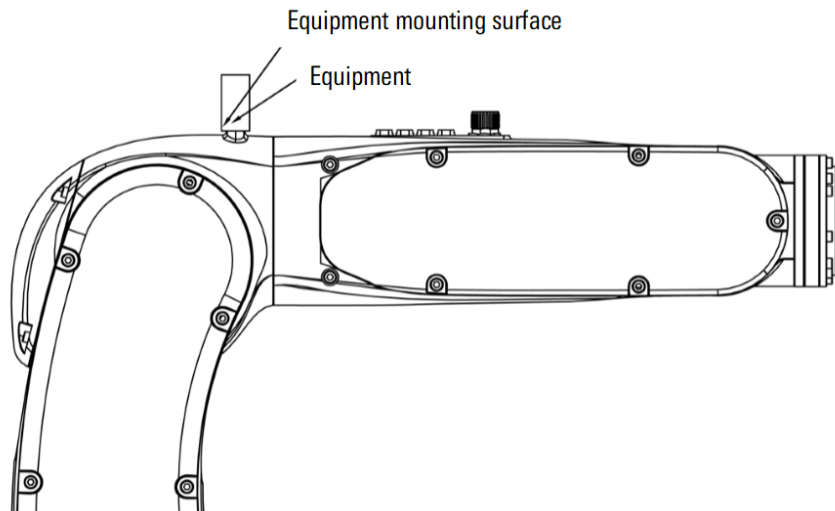

Figure 6-9 Diagram of installation dimensions for the elbow load of AIR4-560A manipulator
- The AIR4-560A manipulator can install external devices weighing no more than 1kg at the elbow. As shown in Figure 6-9.